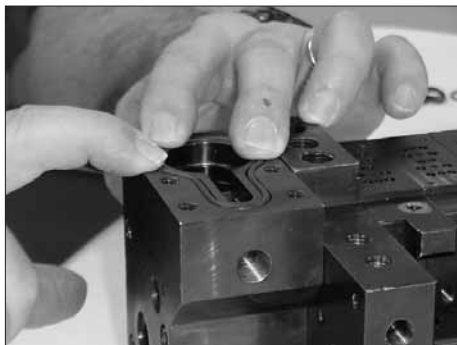

Figure 7-66 Location of the filter block base O-ring
2. See Figure 7-66. Install the filter block base O-ring.